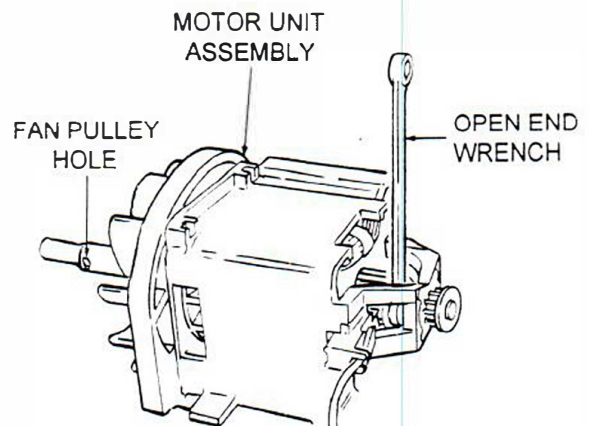

Figure 24 Fan Removal
- A. See Figure 24. Place T156, 11/32 inch open end wrench on flats machined in armature shaft near rear bearing to prevent rotation of armature shaft during fan removal.